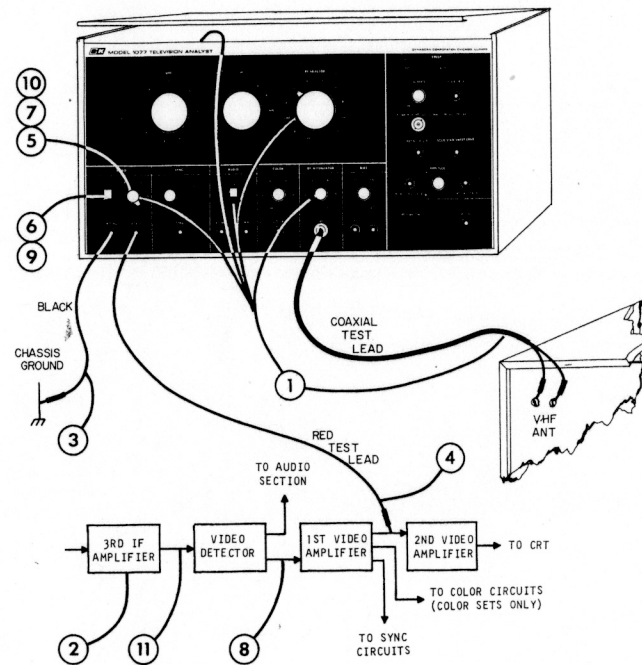

Figure 13. Connections and Control Settings for Video Signal
D. VIDEO SIGNAL (See Figure 13)